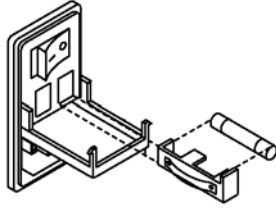

Figure 5-2. Removing Fuse from Fuse Holder
- Slide the fuse holder straight out of the power input module, then remove the fuse from the fuse holder as shown in Figure 5-2.